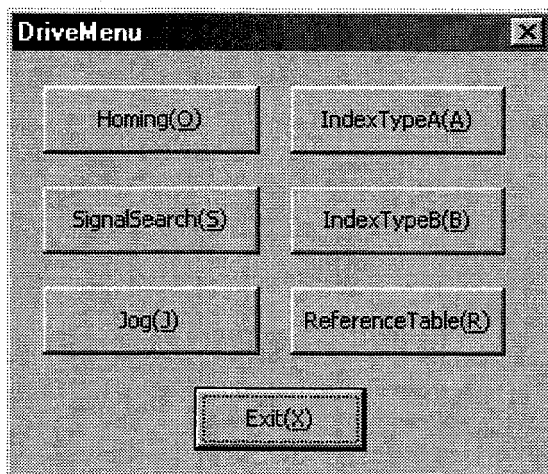

Figure 7.24 "DriveMenu" dialog box
Click "Drive (D)" under "MainMenu" to display the "DriveMenu" dialog box (see Figure 7.24).